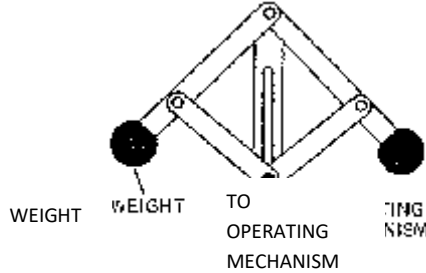

Figure 1
- A Governor, which prevents over-speed. (See Figure 1)